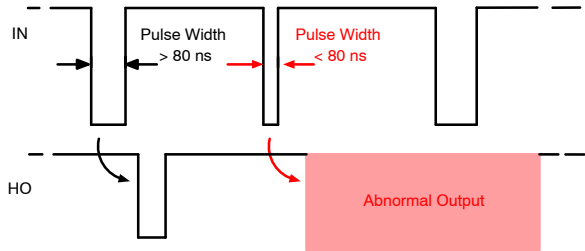

Figure 12. Output Waveform with Short Turn Off Input Pulse Width
- turn off pulses i.e., falling edge to the adjacent rising edge (see example Figure 12)